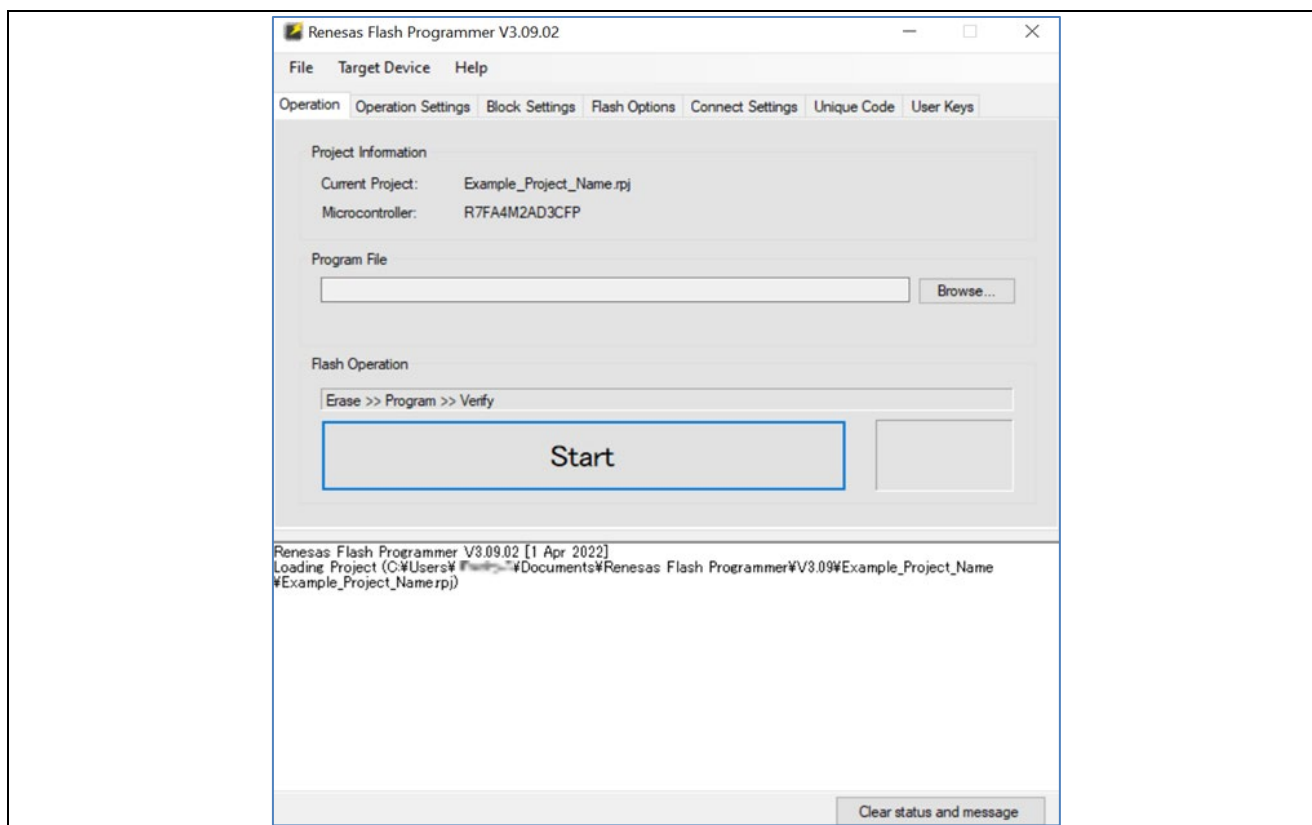

Figure 3. The Main Window of Renesas Flash Programmer After Creating a New Project
5. Verify the message **Operation Complete** is printed in the main window after clicking Connect. Under Program File, click Browse to choose the program file that will be flashed onto the board (Figure 3). Using the file explorer window, navigate to the example project's **ra4m2\_catm.hex** file and click Open.